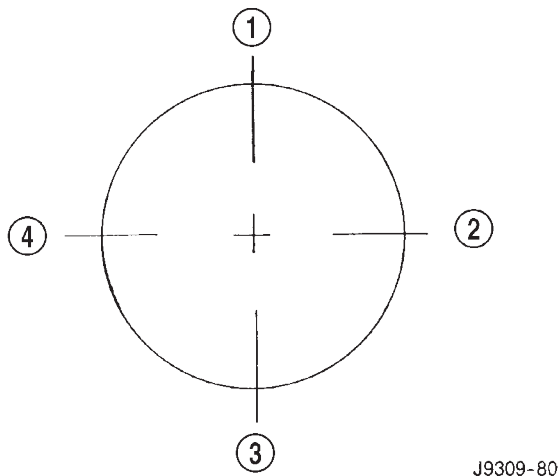

Fig. 38 Proper Ring Installation
(1) Be sure that compression ring gaps are staggered so that neither is in line with oil ring rail gap.
(2) Before installing the ring compressor, be sure the oil ring expander ends are butted and the rail gaps located properly (Fig. 38).